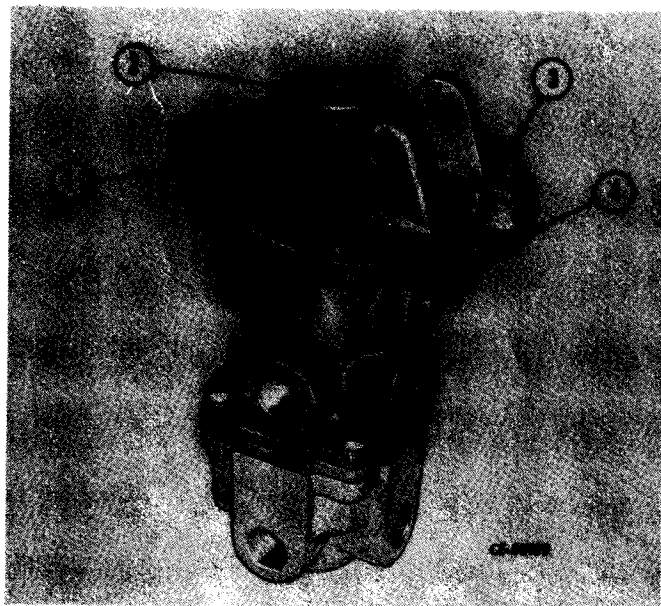

Figure 13-14
NOTE: Treadle valve furthest to left of operator has one section more than right hand valve. This extra "Tandem-emergency" section provides for automatic application of vehicle brakes in case of air failure. The following disassembly instructions up to and including removal of plunger boot (Fig. 13-14) are applicable for both valves.
Remove rubber boot (1, Fig. 13-14) from plunger (2) and mounting plate (4). Remove treadle stop nut and set screw (3) from mounting plate.
Install treadle stop nut and set screw (3, Fig. 13-14) in mounting plate (4). Install rubber boot (1) over plunger (2).